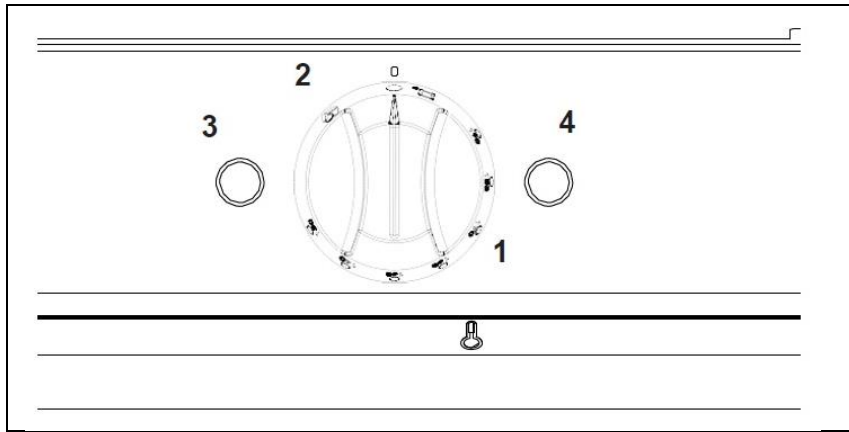

Figure 2 – G3840 Control panel
G3840/F Fryer Control Panel (See Figure 2)
- e) Turn control knob to desired temperature (*140°C*) and heat demand indicator will illuminate (*Figure 2, item 4*).